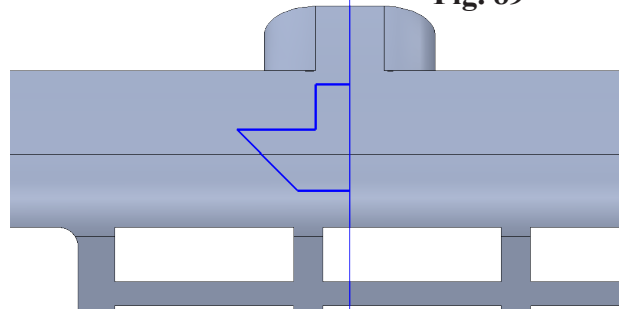

Fig. 91
Step 5. Sketch **5 lines starting from Plane1**, **Fig. 91**.